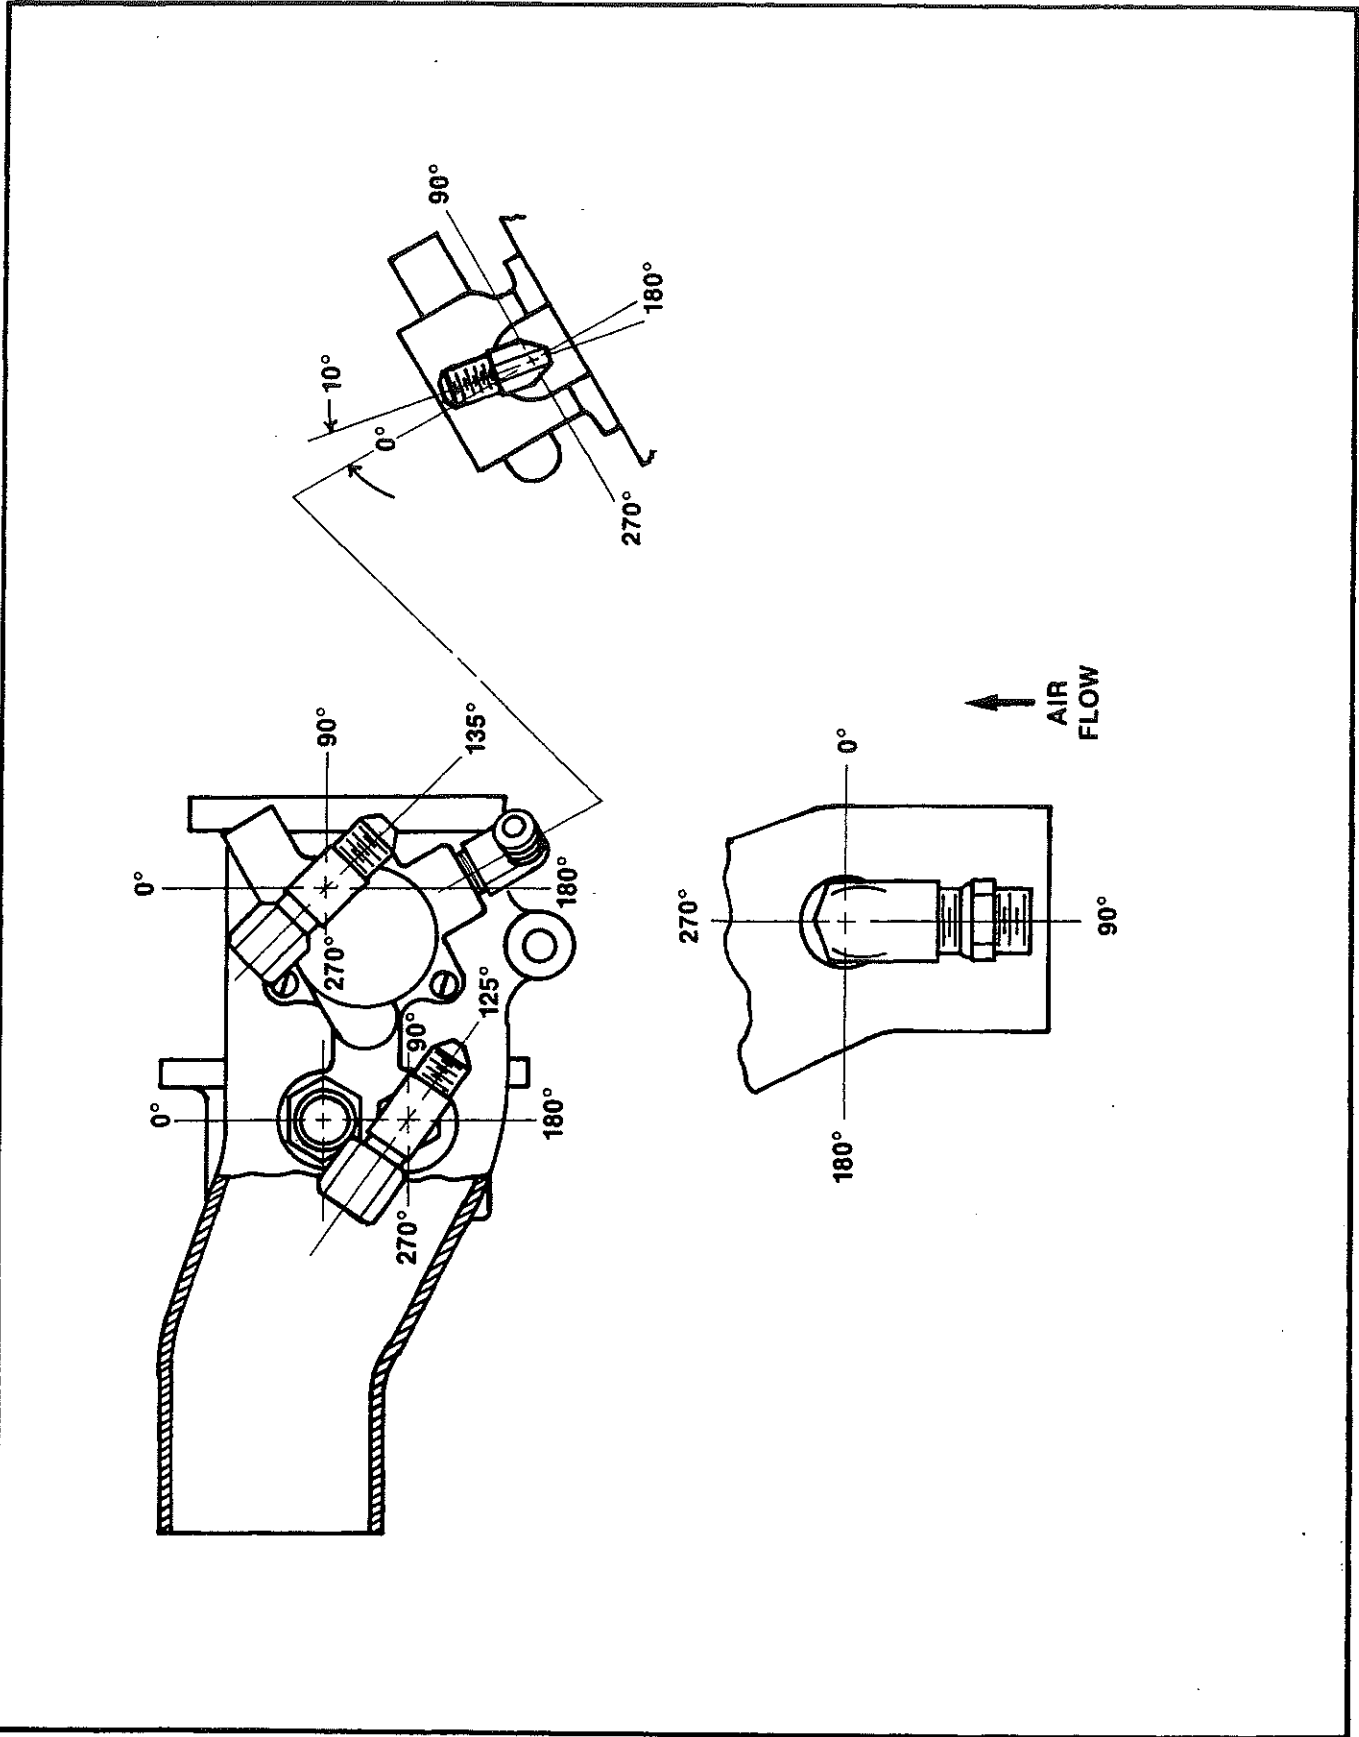

FIGURE 20-04A. FITTING ORIENTATION 649096-1.
NOTE . . . Removal of fittings is not necessary unless damage to the fittings is observed. If the replacement of any fitting is necessary, refer to Figure 20-04A for correct fitting orientation.
C. Install "O" ring (23) in metering cover (21). Place "O" ring (29) on idle adjustment screw (28). Install idle adjustment spring (31) and bushing (30) in position in cover (21), holding cover (21) in such a position to allow spring (31) to rest in bottom-most position. Holding cover (21) with metering plug (27) opening upright, install spring (25) in recess in bottom of cover (21). Place "O" ring (26) in plug (27) and carefully align metering plug pin with idle adjustment pin opening in bottom of cover (21) and install metering plug assembly (27). Depress plug assembly in cover to determine proper alignment of plug pin in idle adjustment recess.
D. With cover assembly (21) including parts (23, 25, 26 and 27) in position, secure in an upright position, carefully mate to air throttle body assembly (1) being careful to prevent damage to metering plug. Install screws (22). Install idle adjustment screw sufficiently to engage the full width of "O" ring (29). Secure with retaining ring (32). Install any fittings that were removed (refer to Figure 20-04A). This completes assembly and unit is now ready for air pressure check and calibration according to values as outlined in the Calibration Section. Lockwire screws (22) after calibration to complete overhaul.